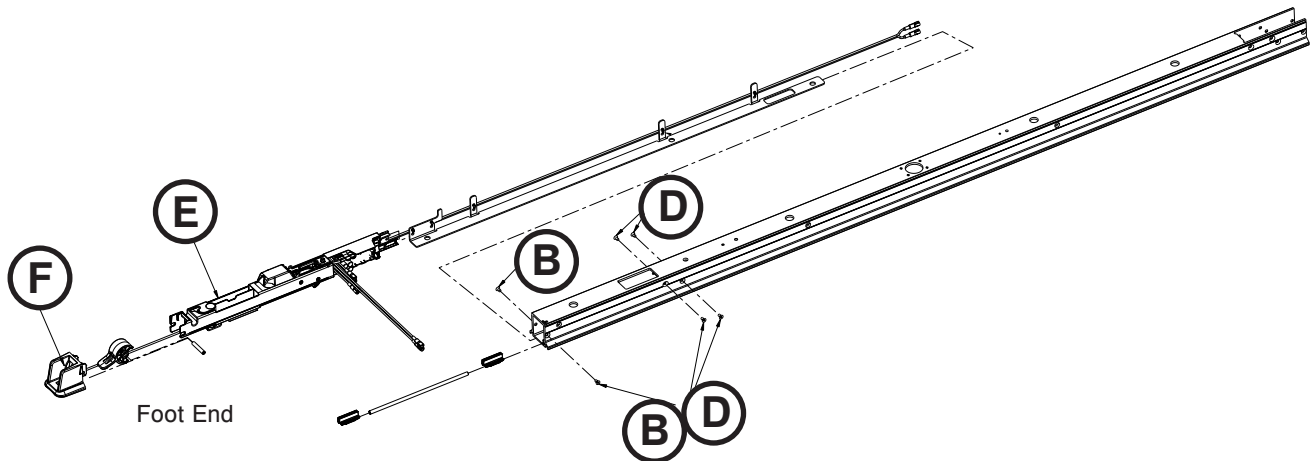

Figure 96
5. Using a 1/8" hex wrench, remove one of the two flat head cap screws (B) that secure the release lever housing (F) to the anchor (Figure 96).
- Using a 1/8" hex wrench, remove two of the four flat head cap screws (D) from one side of the anchor plunger assembly, mid (Figure 96)). Save all parts for reinstallation.
- Using the second 1/8" hex wrench, insert the wrench into the anchor pivot pin to remove the other two of the four flat head cap screws (D) (Figure 96). Save screws for reinstallation.
- Carefully remove the anchor plunger assembly, mid (E) from the anchor (Figure 96).